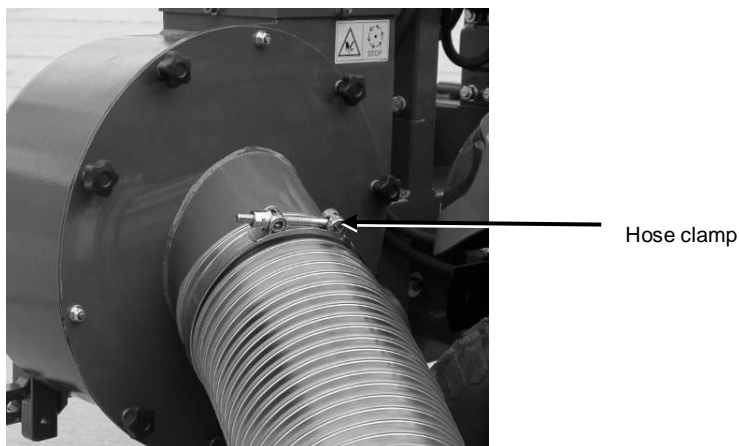

Fig. 34: Suction hose on the turbine cover
10. Slide the suction hose onto the opening on the turbine cover and secure the connection with the hose clamp (see Fig. 34).